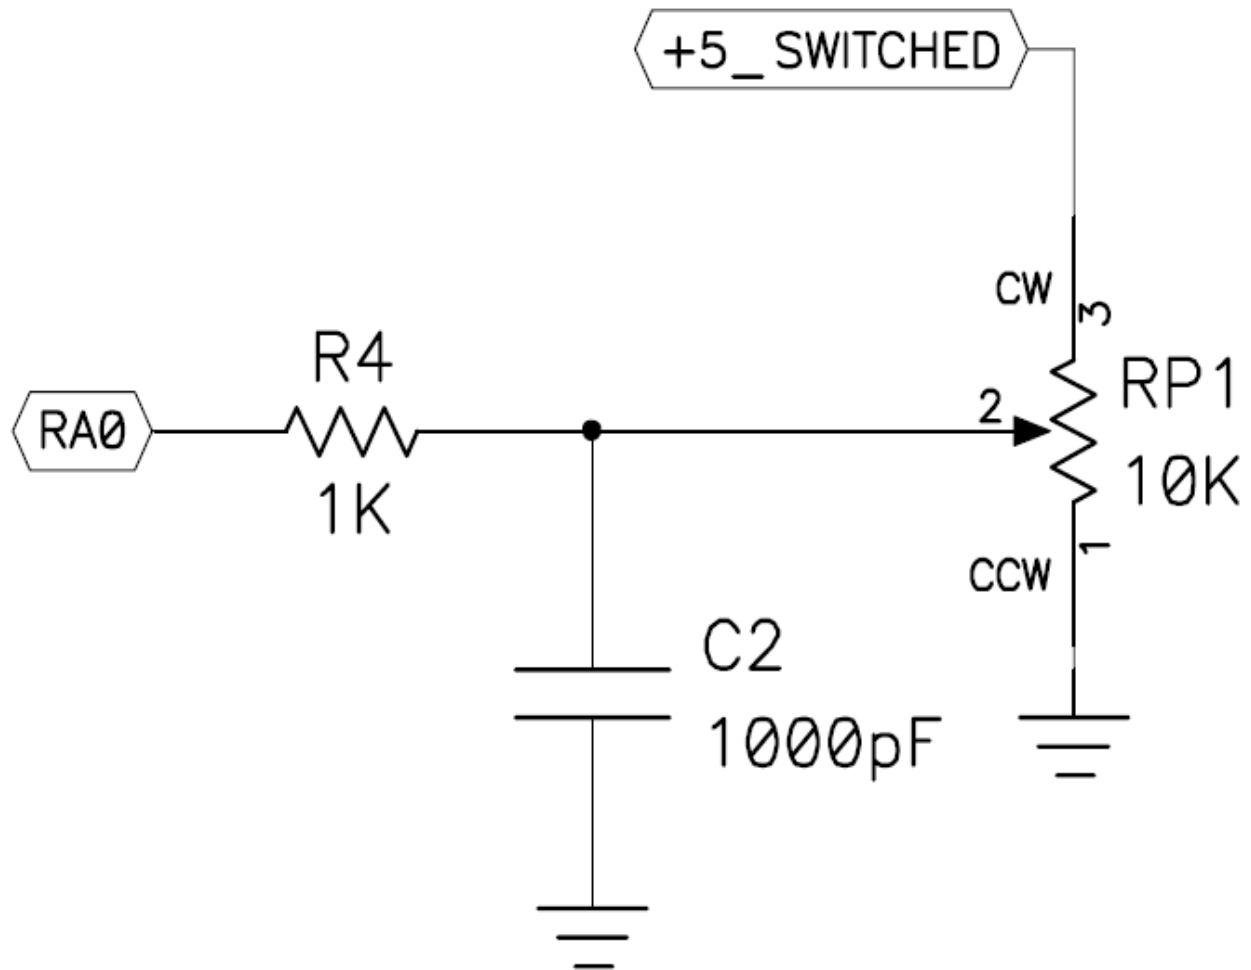

Figure 5 Lab 4A.c Code
- a.** Develop a MPLAB IDE Project using the Code provided in Figure 5 which is also contained in the text file called Lab_4A.txt located on the course website.